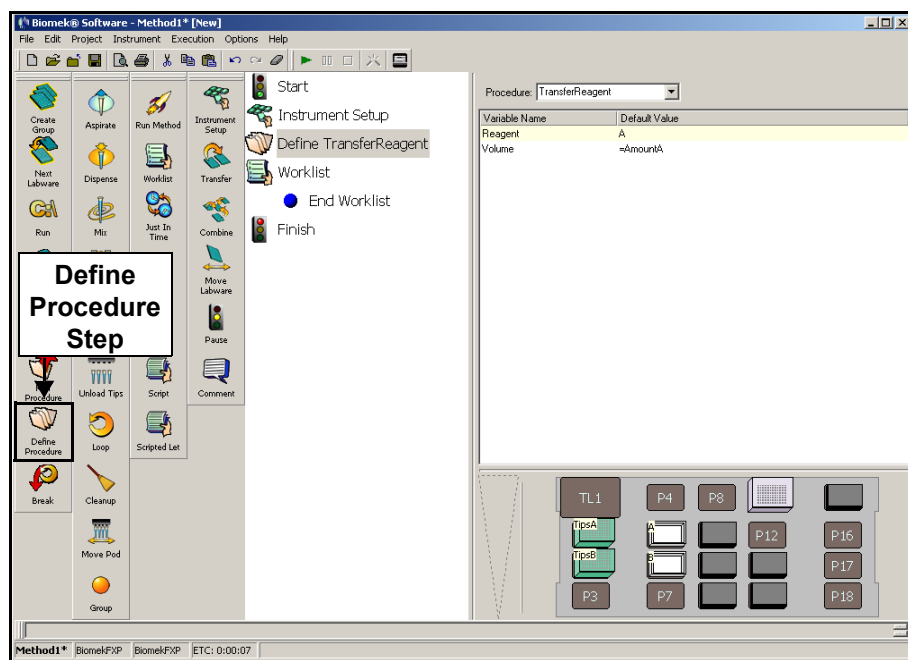

Figure 4-4. Procedure named
1. From the Specialty step palette (Figure 4-4), insert a **Define Procedure** step below the Instrument Setup step.
2. In Procedure, enter **TransferReagent** (Figure 4-4). This becomes the name of your procedure and will appear as Define TransferReagent in the method view.